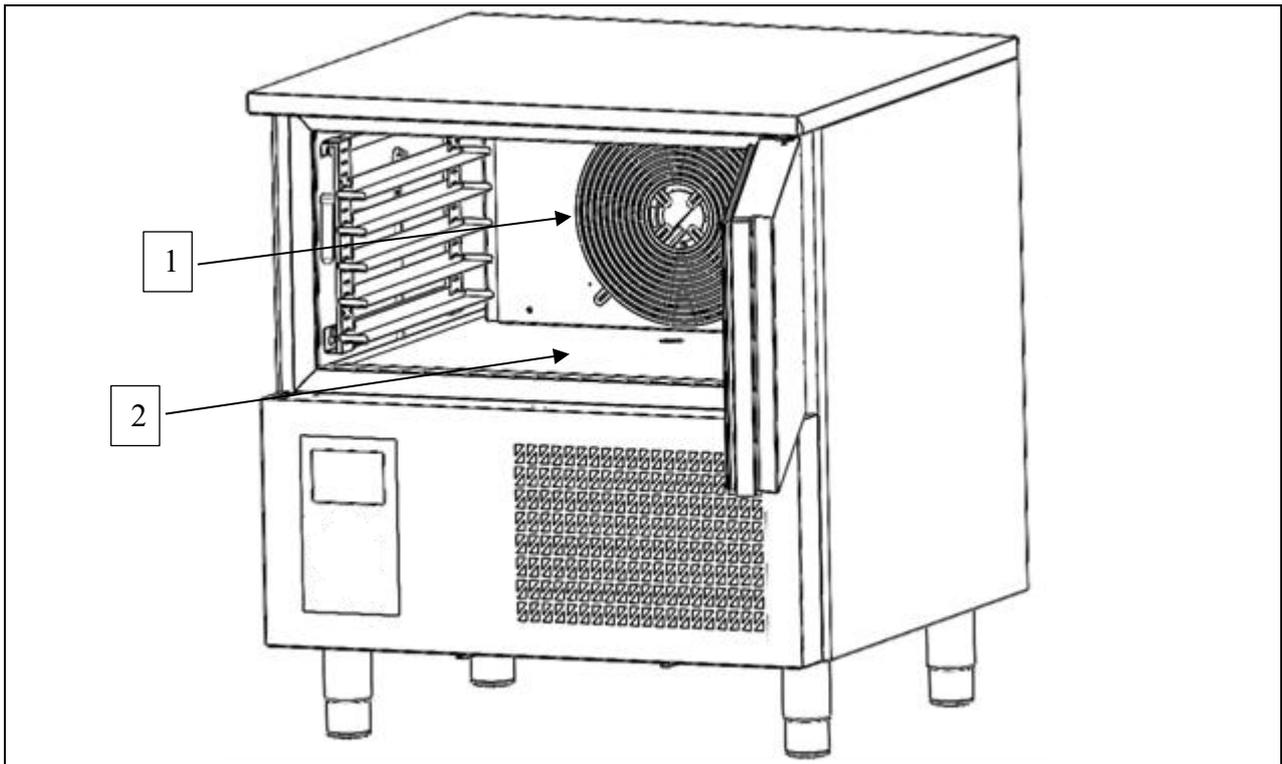

Fig. 1
- with obstructed air ducts (ref. 1 fig. 1);
- with the food to be processed placed against the ventilation grilles (ref. 1 fig. 1), air ducts, or on the bottom of the chamber (ref. 2 fig. 1).